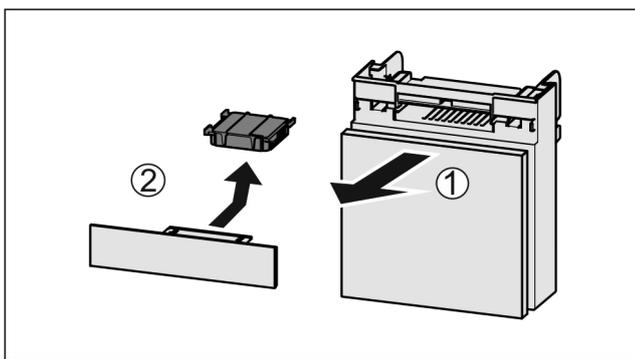

Fig. 42
- ▶ Pull out the compartment Fig. 42 (1).
- ▶ Remove the carbon filter Fig. 42 (2).